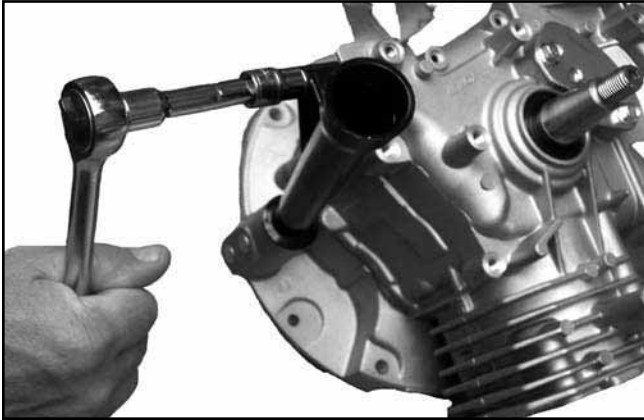

Figure 8-45. Removing Dipstick Tube.
1. Remove the hex flange screw securing the dipstick tube. See Figure 8-45. Remove the tube.